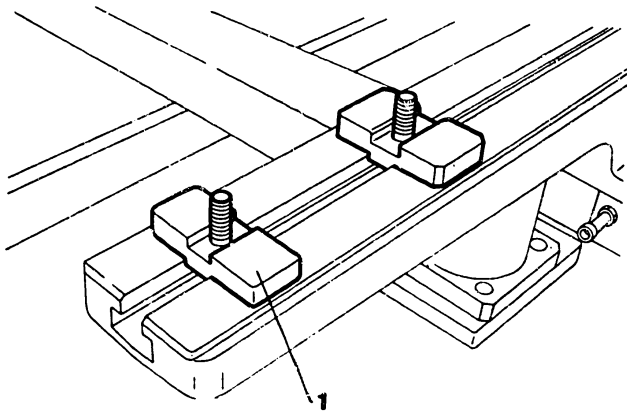

Fig. 16 Installing the adapters
When using the pump test stand with a center height of 125 mm, the two adapters (27) should be installed between the pump test stand's bed and the stand (1). (Figure 16).